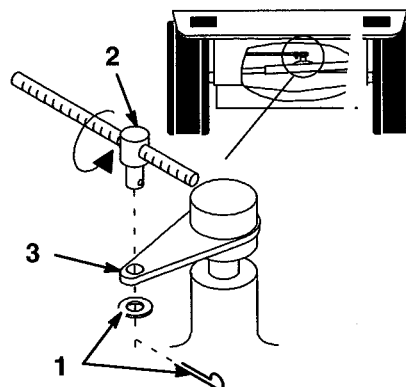

Figure 25
The brake lever is on top of the transaxle (Fig. 25). If the parking brake does not hold securely, an adjustment is required.
3. To adjust the brake remove the cotter pin and washer from the brake lever (Fig. 25).
4. Rotate the trunnion so it smoothly slides into brake lever (Fig. 25).
5. Secure trunnion to brake lever with washer and cotter pin (Fig. 25).